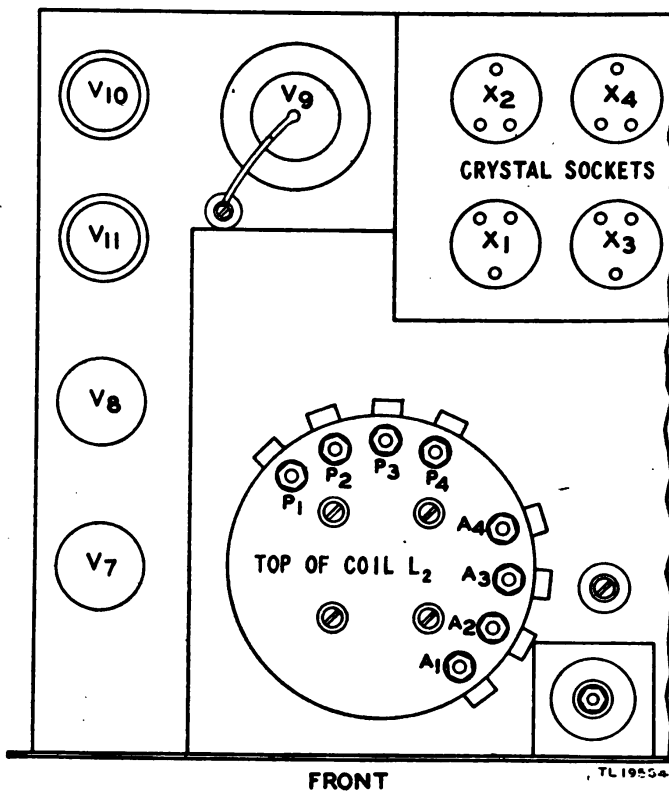

Figure 35. Transmitter presetting adjustments, showing r-f chassis—top view.
- (2) Close the front panel.
- (3) Connect the antenna to the set.
- (4) Set CRYSTAL SELECTOR switch to channel 1.
- (5) Plug in line cord and turn POWER ON-OFF switch to ON.
*d. TUNING TO RESONANCE.* (1) Open the front panel and set slider A1 at bottom of the tank coil L2 (fig. 35). The slider will engage in a notch when properly seated.
(2) Set slider P1 near the top of the tank coil. The setting is usually near the top of the coil for the lowest frequencies (1,700 kc) and about one-third to one-half way down the coil for the highest frequencies (2,750 kc).